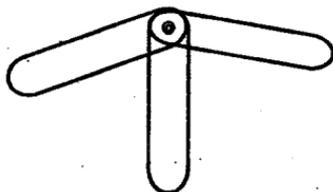

Figure 1
- (f) How many DOF would three links connected by revolute joints at B (figure 1) have ? Prove.